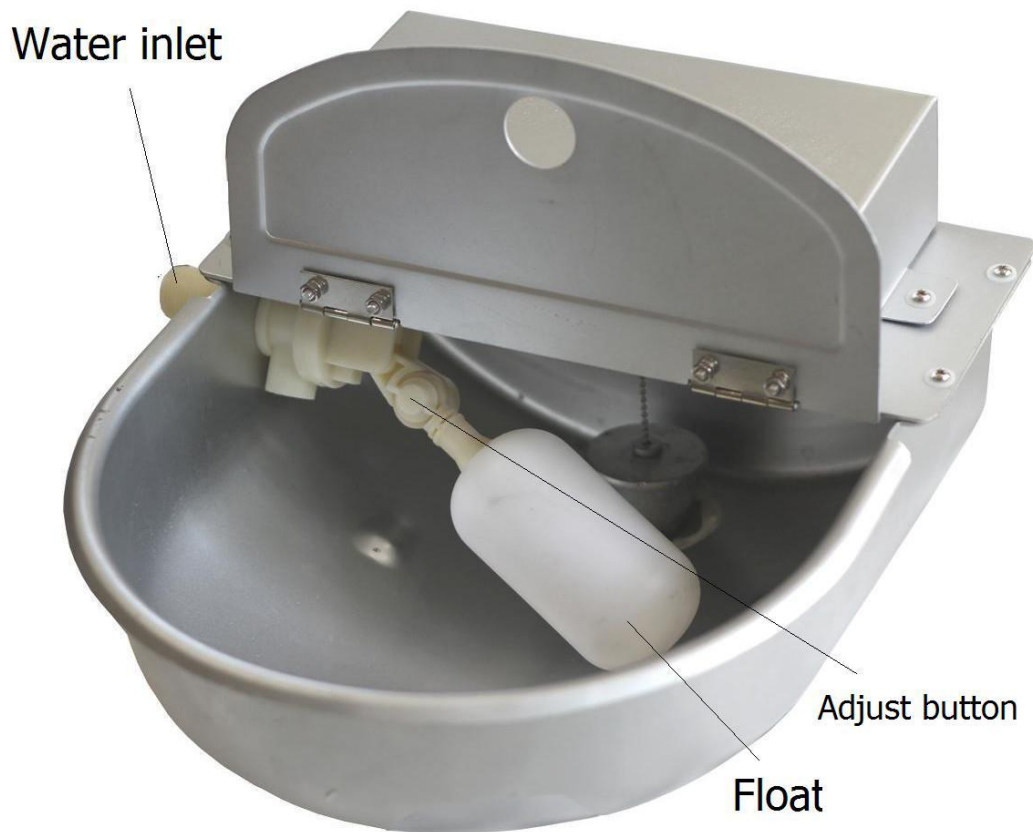

Fig 5
4. Install the float. Unscrew nut on the float, put the thread of the float through the hole of the water spenser, then screw the nut back again to the float thread which will hold the float to the body of the waterer. User can adjust angle of the float through the adjusting button, so to adjust water level of water dispenser. Suggestion put float flat. Fig5